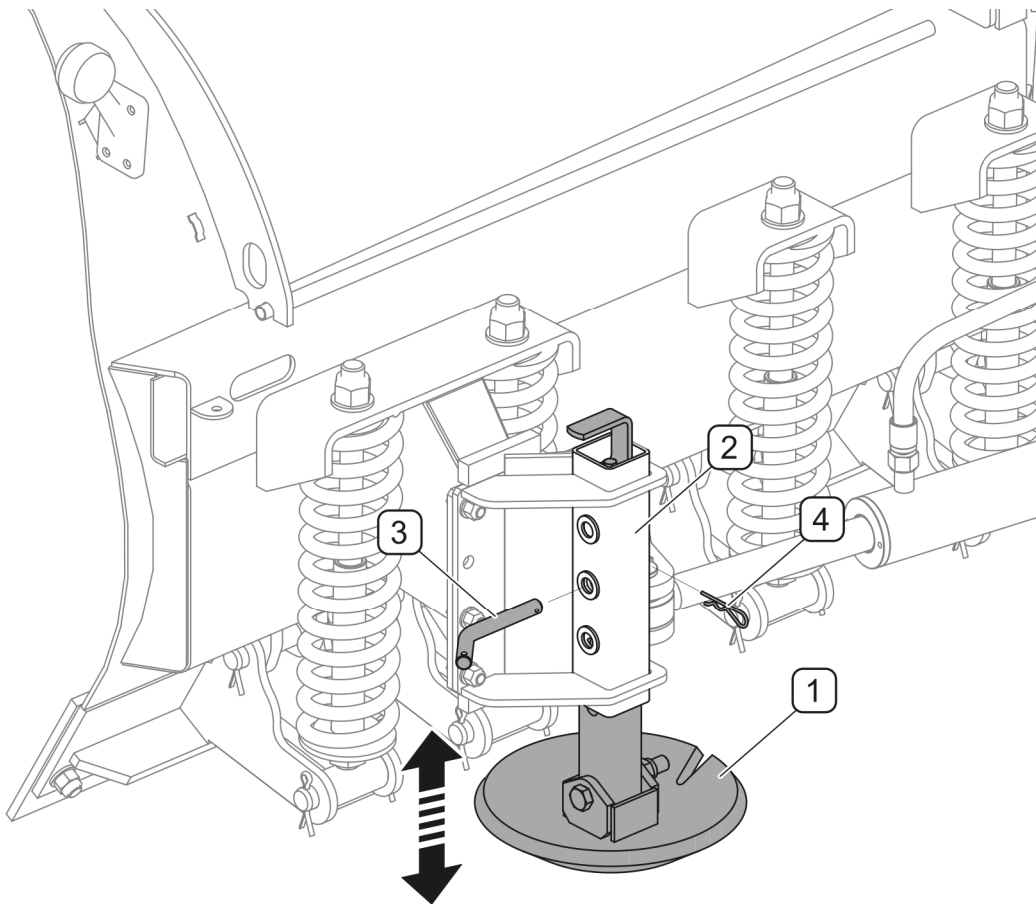

FIGURE 4.7 Height adjustment in ploughs equipped with slides.
(1) - slide, (2) - slide guide (3) - pin, (4) - locking cotter pin
In ploughs equipped with slides (FIGURE 4.7), the height adjustment is performed by unlocking pin (4) and proper sliding out or sliding in the slide (1) mounted in guide (2). Location of the slide in the guide can be changed every 7 mm using one of the three openings in the guide. When the height is set, slides must be protected with a pin (3) and spring cotter pin (4). Slides of the left and right mouldboard should be put forward at the same height.